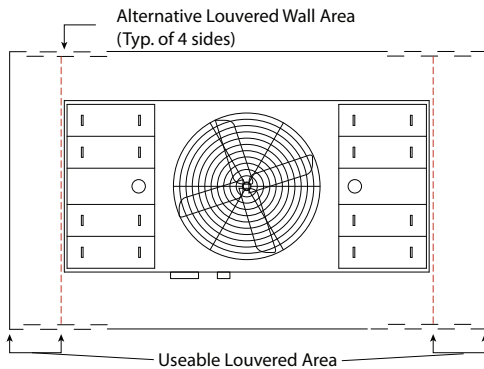

Figure 10. Plan View of Dual Air Intake Unit with Alternate Louver Arrangement
- If the available space does not permit the unit to be arranged with the air intakes facing the louvered or slotted walls and the enclosure cannot be modified to permit such an arrangement, consider the alternative illustrated in **Figures 10** and **11** on the following page. This arrangement should be restricted to one-cell or two-cell installations. The usable area of the louvers is only the length extending beyond the width of the unit.
- If the unit is elevated to ensure the discharge is at the same level or above the top of the enclosure, it is acceptable to extend the louvered or slot area below the base of the units up to 2' if needed to achieve the minimum gross louver area. To calculate air velocity through the louver, the usable louvered or slot area may extend beyond the ends of the unit by a value $\frac{1}{2}$ the unit length (L), with 6' maximum on either side. The unit by a value $\frac{1}{2}$ the unit length (L), with 6' maximum on either side. air velocity through the louver, the usable louvered or slot area may extend beyond the ends of the unit by a value $\frac{1}{2}$ the unit length (L), with 6' maximum on either side.